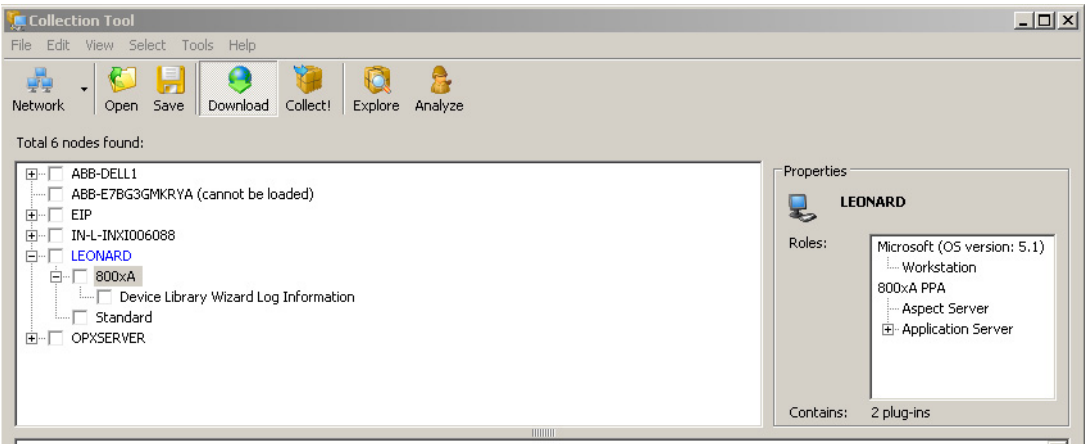

Figure 59. Collection Tool
1. Select the nodes and plug-ins for these nodes from the list. Figure 59 shows the Collection Tool and a number of nodes and plug-ins.
2. Once the plug-in list is received, select it and configure them, see Figure 59.
An error message will be displayed next to the node name if the plug-ins cannot be loaded for a node, see Figure 59.